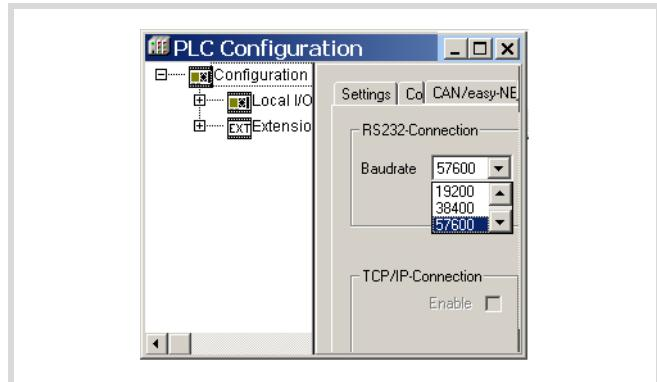

Figure: 73: Specifying the CPU's communication settings
The CPU parameters can then be defined again (→ figure 73). These parameter changes must then be adapted again for the PC.
- ▶ In the Baud rate list box select the baud rate (e.g. 57 600 Bit/s as shown in figure 73).